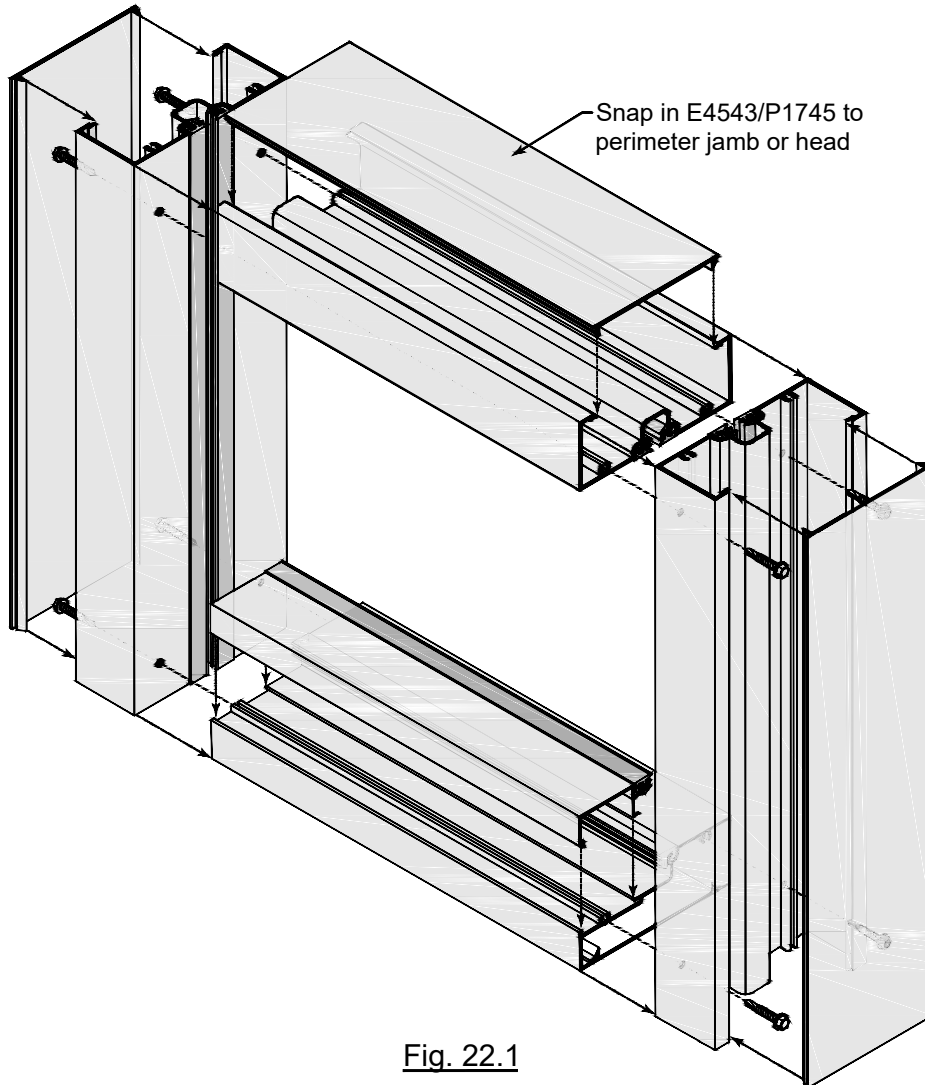

Fig. 22.1
- A. Assemble elevation. SEE Fig. 22.1